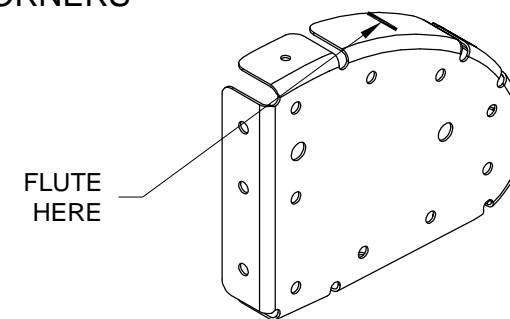

FIGURE 5: FLUTE
Step 8: Flute and straighten as required the called out flange of the FL-1004-L & -R Nose Ribs. See Figure 5.